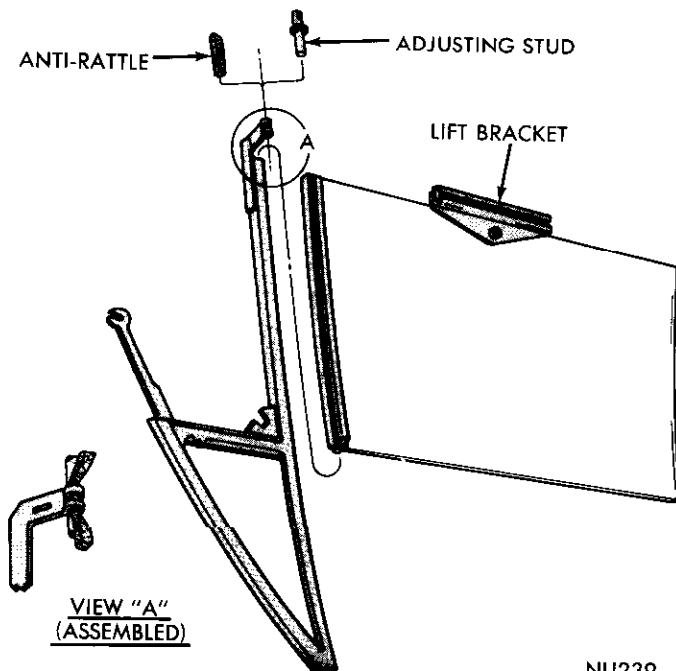

Fig. 44—Vent Wing Replacement—Hardtop—Convertible
- (1) Remove nut and washer from stud on lower end of vent wing leg (Fig. 44).
- (2) Remove screw and washer assemblies attaching vent wing to belt line.
- (3) Remove vent wing leg stud from slot in hinge pillar support.
- (4) Remove vent wing swivel to regulator screw.
- (5) Move door glass forward disengaging it from rear run channel.
- (6) Slide glass lift bracket off of regulator arm and remove door glass and vent wing assembly from door.
- (7) Invert and separate door glass from vent wing, (Fig. 44).
- (8) Remove glass slide and weatherstrip from door.